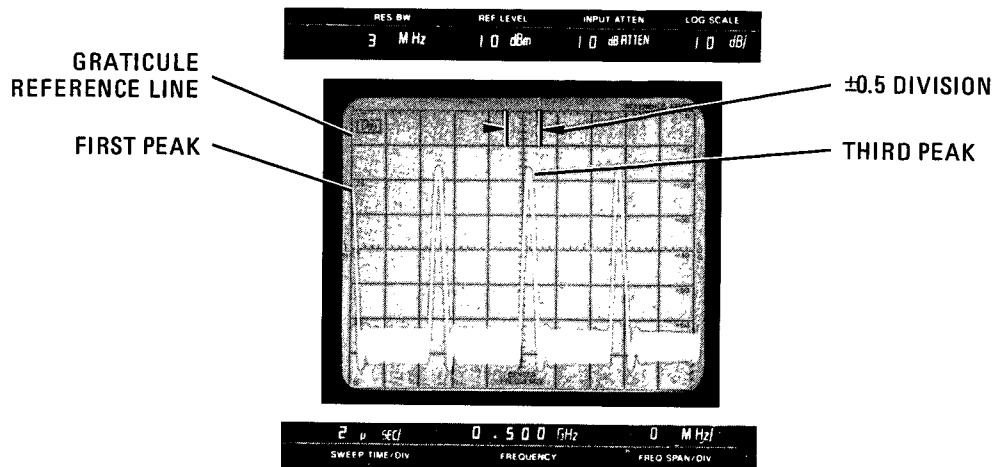

Figure 4-22. Sweep Time Accuracy, 2 μ SEC/DIV
- f. Adjust TRIGGER LEVEL so the first peak is at the graticule reference line (see Figure 4-22). The third peak should be at the center graticule line \pm 0.5 division (\pm 10%).